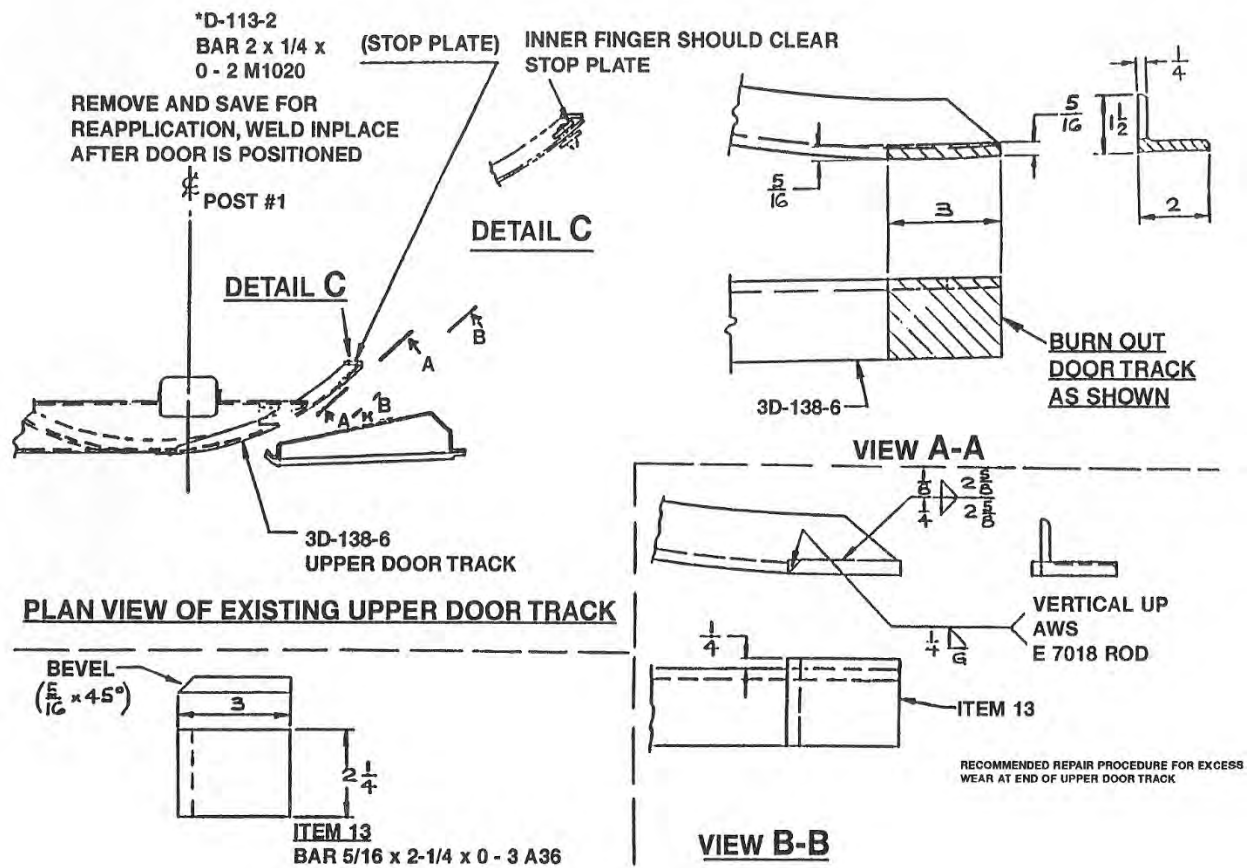

Figure 8
2. Burn out the vertical leg of the door track angle as shown in the cutting diagram (View A-A of Figure 8).
3. Fabricate a new part as shown on Figure 8, Item 13.
4. Clamp and tack weld Item 13 to the door track. Weld complete using a Low Hydrogen electrode as shown in Figure 8 View B-B. Grind the vertical weld at the splice until it is smooth.